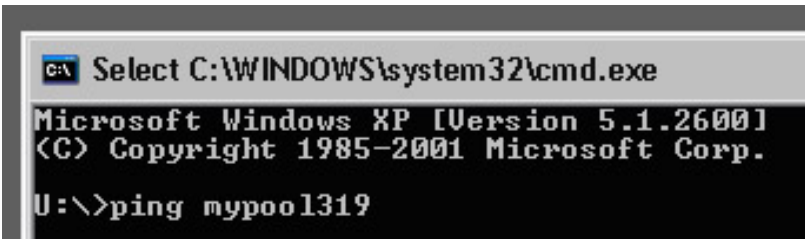

Figure 6
- 3) At the command prompt, type "**ping mypoolnnn**" where *nnn* is the last 3 digits in the ACHN's MAC address (see "ACHN's URL" on page 3) and press the ENTER key on your keyboard (Figure 6).